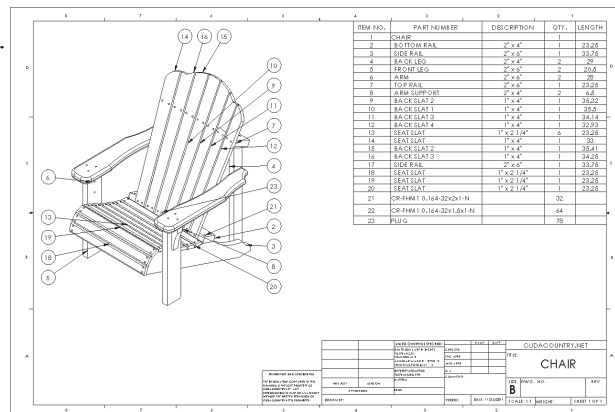

Fig. 11
Step 3. Click Chair in Isometric view on your drawing, **Fig. 11**.
Step 4. In the Property Manager, grab a Balloon and drag to size group click OK , **Fig. 10** and **Fig. 11**.